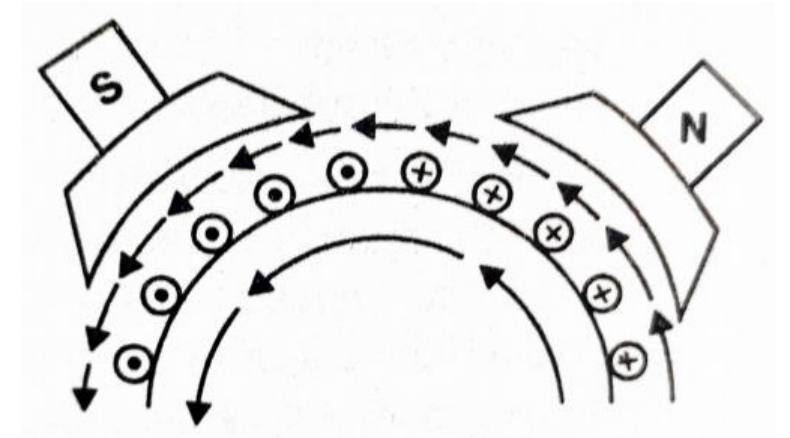

Fig. 3.1
- Consider a part of a multipolar d.c. motor as shown in fig. 3.1. when the armature of the motor are connected to an external source of a d.c. supply:
- Assuming all conductors under N-pole carry currents into the screen of the laptop, and those of the S-pole carry currents out of the screen of the laptop as in fig. 3.1.